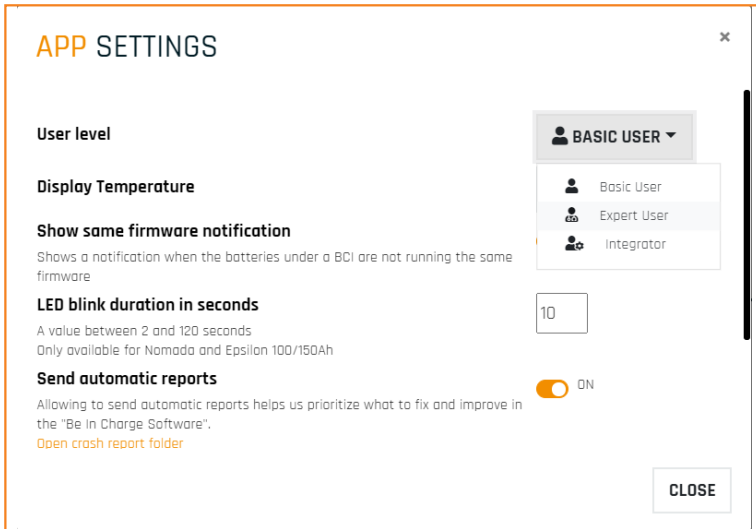

Figure 17. Set user level to 'Expert user'
3. In order to make changes to battery node ID it is necessary to set the user level to 'Expert User' (Figure 17 and 18).